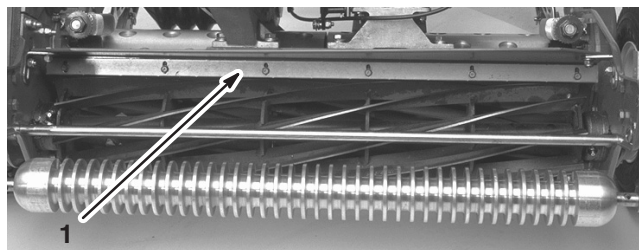

Figure 18
1. Loosen the screws securing the top bar (Fig. 18) to the cutting unit.